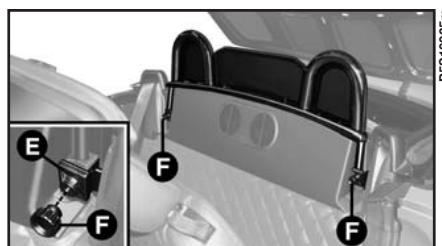

fig. 71
4) Position the cover **E**-**fig. 71** on the brackets **A** and **B** as shown in the figure. Then fasten knobs **F** on the supporting bracket screw.
1) Hold the bonnet up with one hand and, with the other, remove rod **A**-fig. 71 from recess **B** and replace it in its clip.